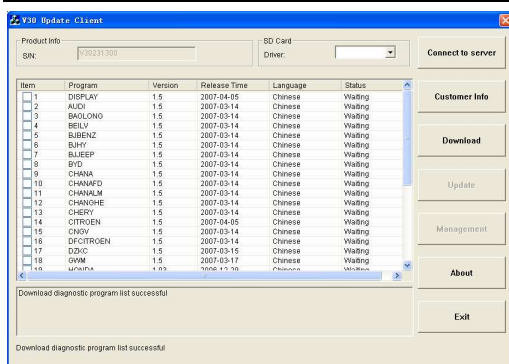
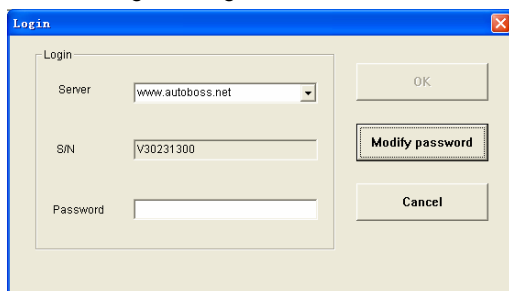

Fig2-3 Program list interface
Fig2-4
(4) After login succeeds, the diagnosis program for the different manufacturers will be displayed as shown in Fig2-3, please allow a short time for the downloads to finish.
- (1) Click on the button [Connect to server] in the interface shown in Fig.2-3 to enter the interface as shown in Fig.2-4.